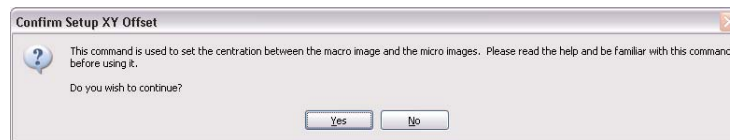

Figure 50. The Confirm Setup XY Offset dialog.
7.) The Confirm Setup XY Offset dialog appears as shown in Figure 50. To set the X Y offset click the **Yes** button. Points click on the Slide View image now appear centered in the Image window.